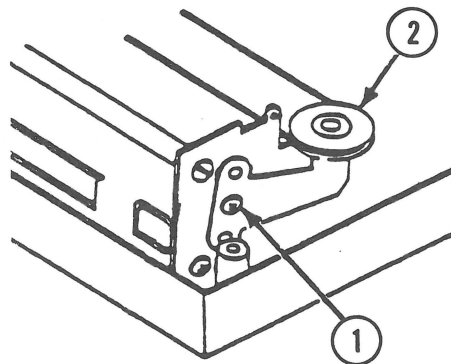

FIGURE 24
15. Loosen the screw (Figure 24, #1) on the tension arm.
16. Slip off the wire from the idler pulley (Figure 24, #2).